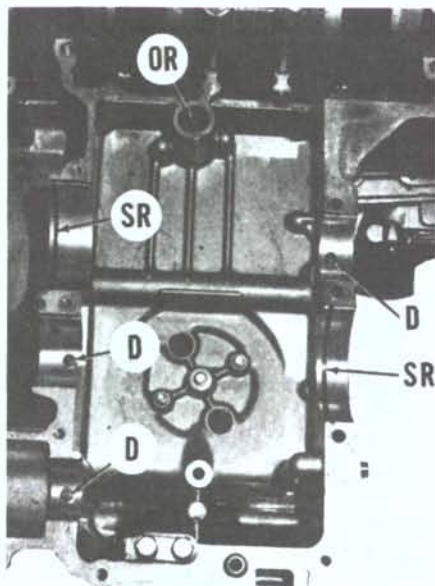
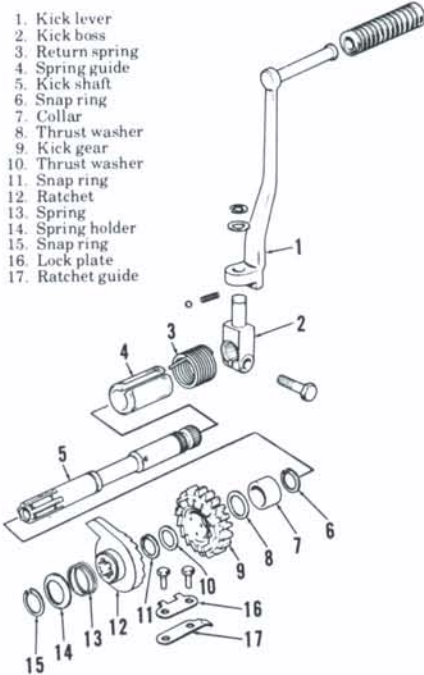

Fig. K13-25—Be sure that set rings (SR) and dowels (D) are installed. "O" ring (OR) seals passage between oil filter and main oil gallery.
Fig. K13-28—Exploded view of kickstarter mechanism used. Assemble ratchet (12) and kick shaft (5) with index marks aligned.
When reassembling, make sure that all bearings are correctly seated over dowel pins and set rings in upper crankcase half (Fig. K13-25) and then "O" ring (OR) is installed. Apply a thin, even coating of a non-hardening type gasket sealer to mating surfaces of crankcase sections. Kickstarter ratchet (12—Fig. K13-28) should be positioned on kick shaft (5) so that marks on each piece are aligned. Clutch housing/primary gear assembly must be installed before assembling cases.